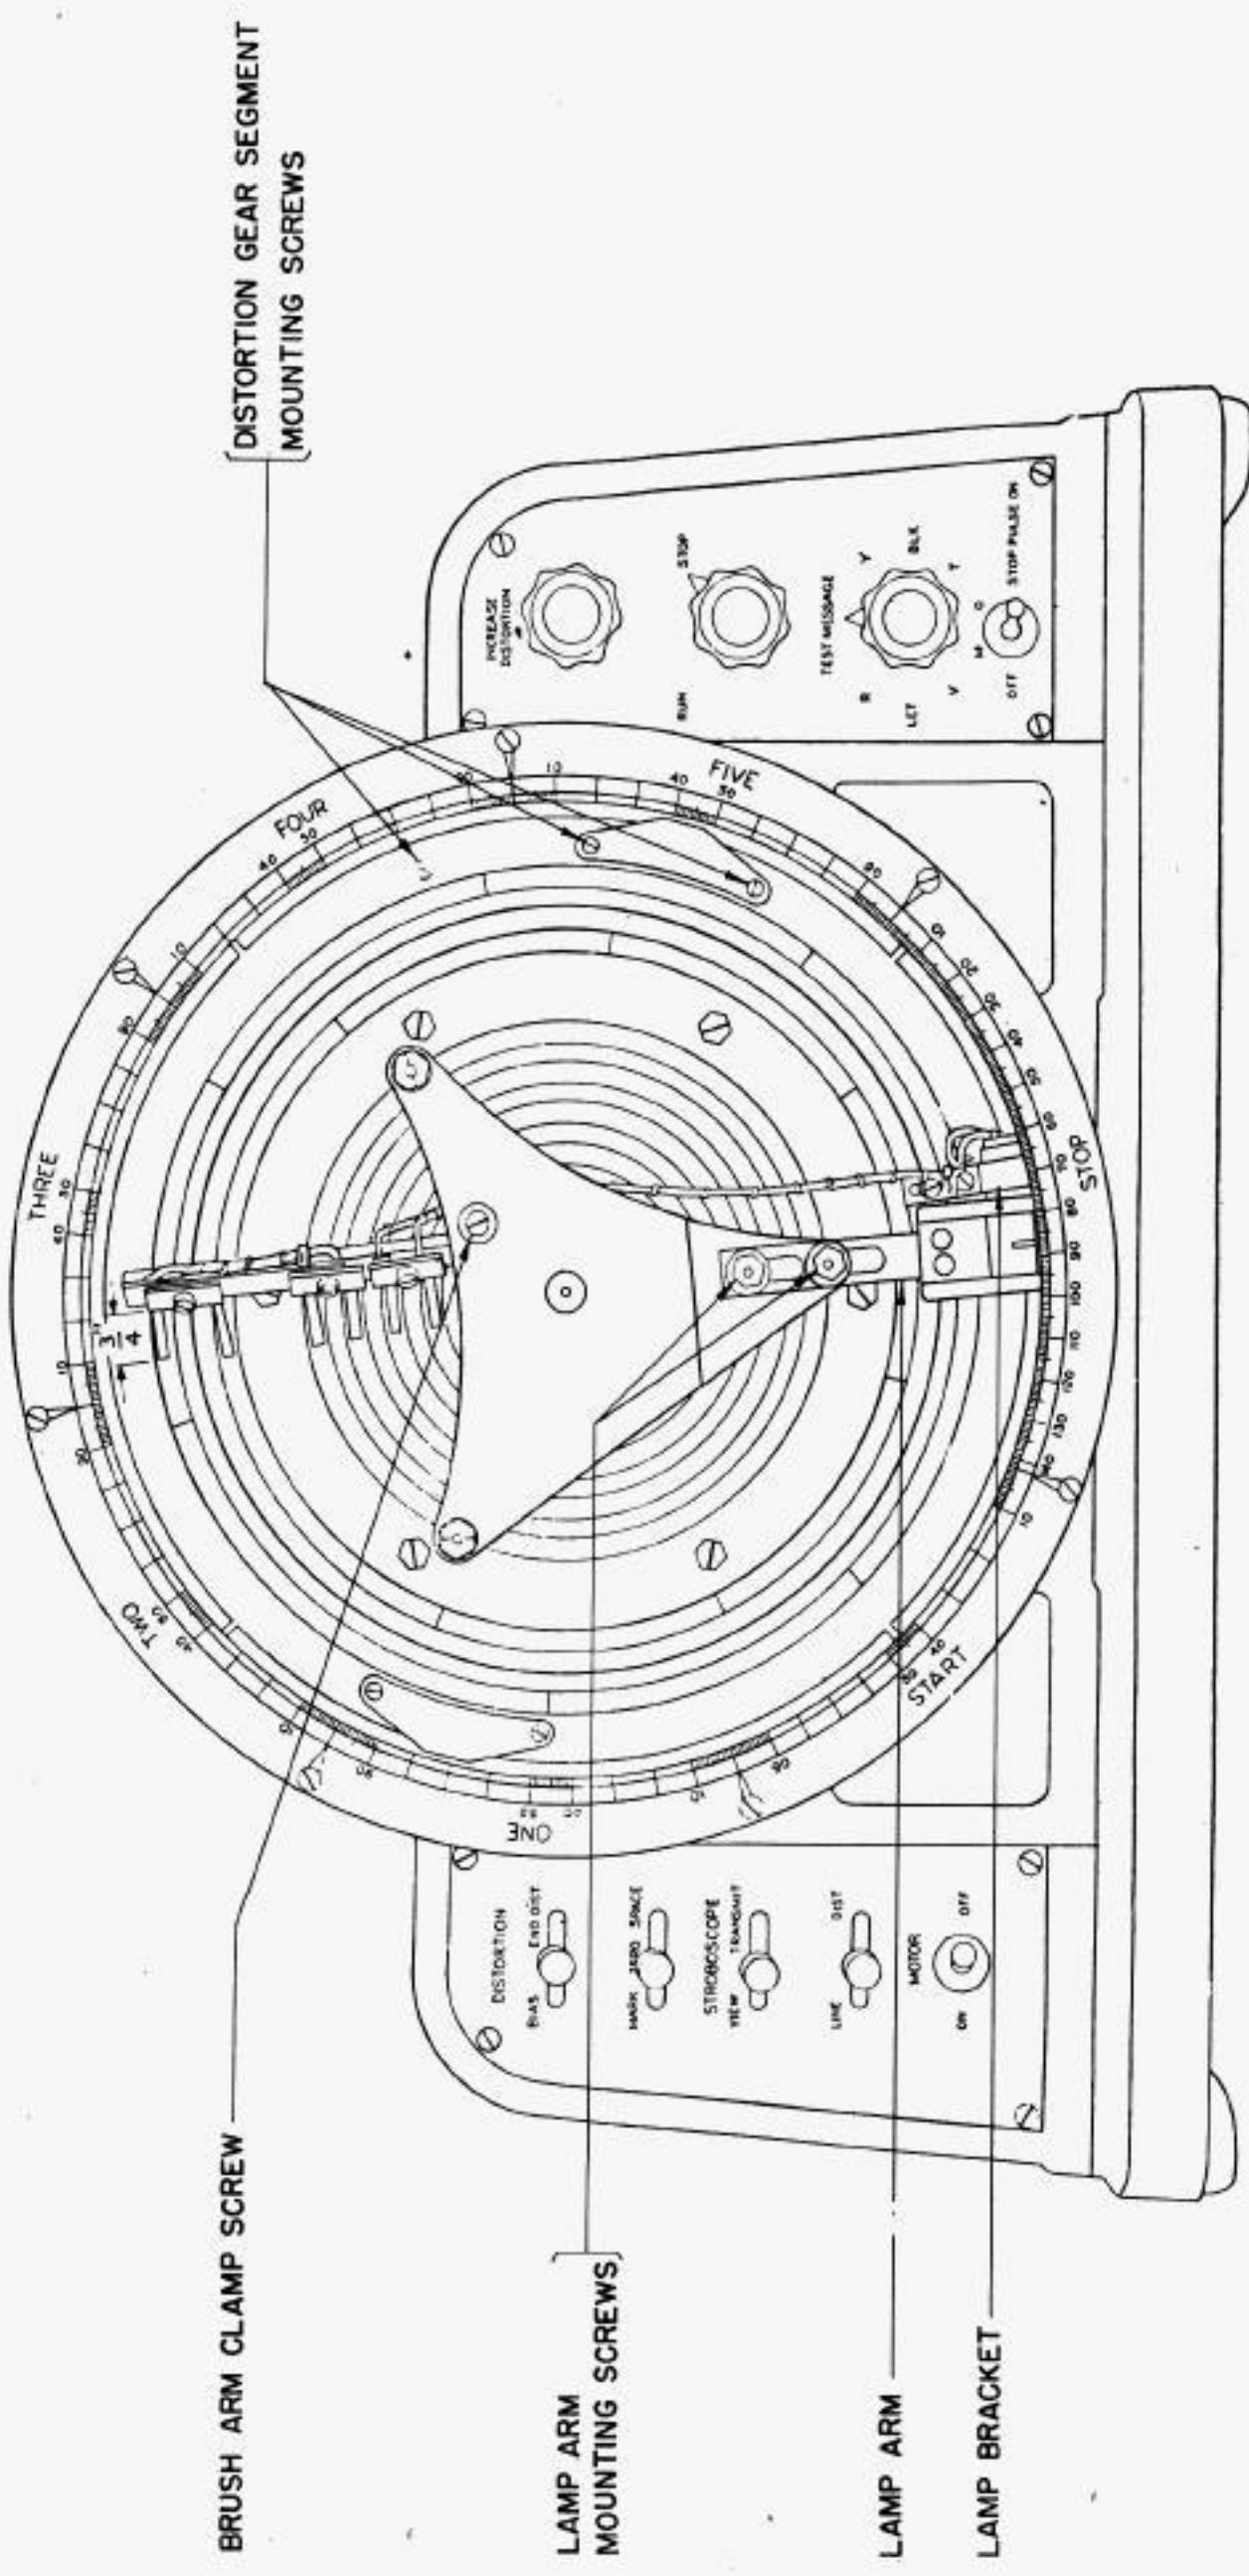
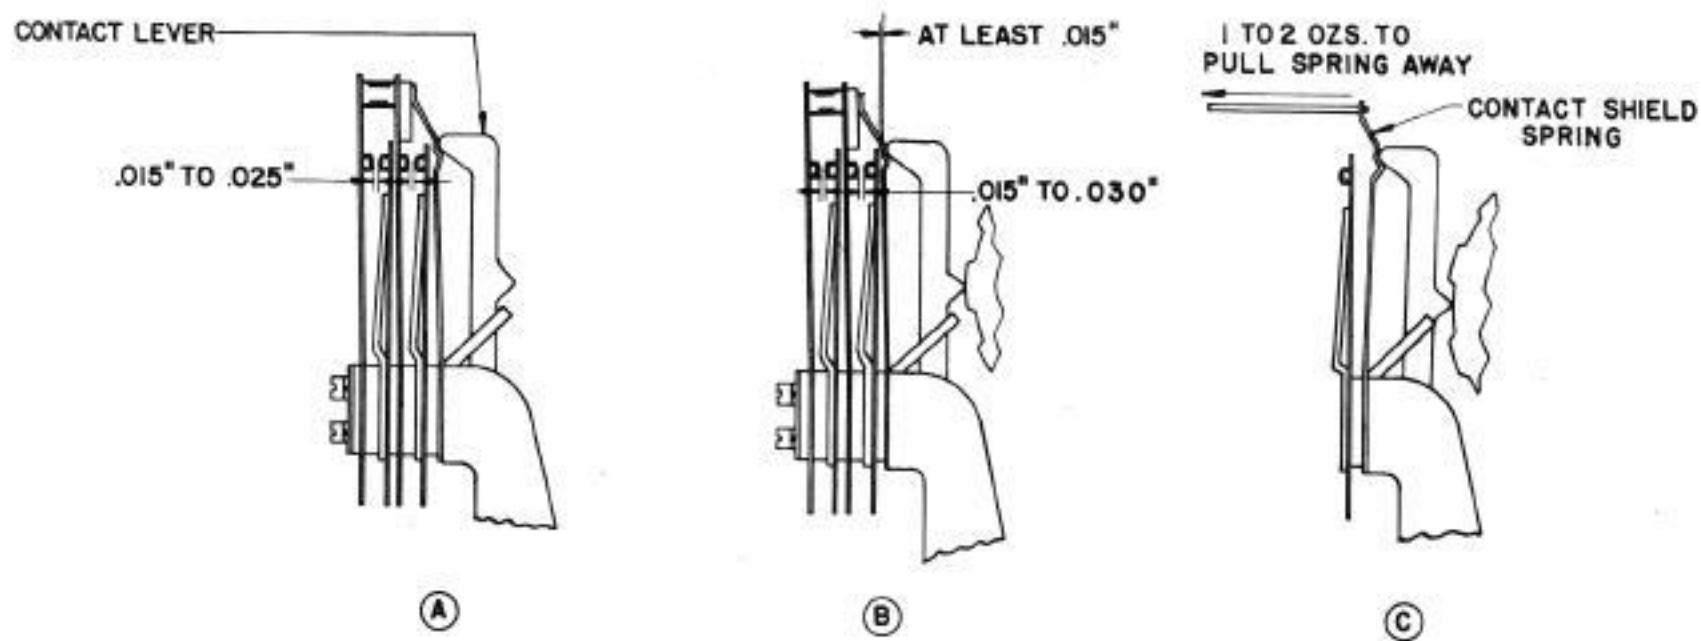

FIGURE 1
FIGURE 4
Remove the large test set cover and the disc front cover. Loosen the brush arm clamp screw. Move the brushes away from the disc and tighten the clamp screw. (See Figure 1.)
DISTORTION ADJUSTING GEAR SEGMENT ADJUSTMENT (Figures 1 & 2.)
- (1) With the Code Selecting Knob (Figure 1) in the R position, there should be a gap of .015" to .025" between each pair of contact points of the numbers 1, 3 and 5 contact assemblies. To adjust, bend the short contact springs and their stiffeners. (See Figure 4-A)
- (2) With the Code Selecting Knob in the Y position, there should be a gap of .015" to .025" between each pair of contact points of the numbers 2 and 4 contact assemblies. To adjust, bend the short contact springs and their stiffeners. (See Figure 4-A)
- (3) With the Code Selecting Knob in the TEST MESSAGE position, and the contact levers on the high parts of their cams, there should be a gap of .015" to .030" between each pair of contact points.
To adjust, loosen the coding unit mounting screws and position the coding unit. Tighten the mounting screws. (See Figure 4-B.)
- (4) With the Code Selecting Knob in the TEST MESSAGE position, rotate the code cams until the number 1 contact lever rests on a low part of its cam. Hold the number 1 contact lever against its cam and hook an 8 oz. scale on the top of the contact shield spring. It should require 1 to 2 ozs. to pull the spring away from the contact lever. Check each contact shield spring in a similar manner with each contact lever on a low part of its respective cam. To adjust, bend the contact shield springs. (See Figure 4-C)
The face of the slotted part of the lamp arm should be approximately in line with the face of the scale. There should be some clearance, not more than .006" at the point of least clearance between the end of the slotted part of the lamp arm and the edge of the scale plate. To adjust, loosen the lamp arm mounting screws and position the arm. Tighten the mounting screws. (See Figure 1.)
The ends of the brushes should be cut square and be free from fragments. The brushes should be straight and extend at right angles to and 3/4" from the brush arm. To adjust, loosen the brush clamp screws and position the brushes. Tighten the clamp screws, then loosen the brush arm clamp screw, move the brushes against their respective discs until the post on the brush arm is against its stop post. (See Figure 1.)
adjust, remove the front cover and loosen the lamp bracket mounting screw and position the bracket. Tighten the mounting screw. (See Figure 1.)